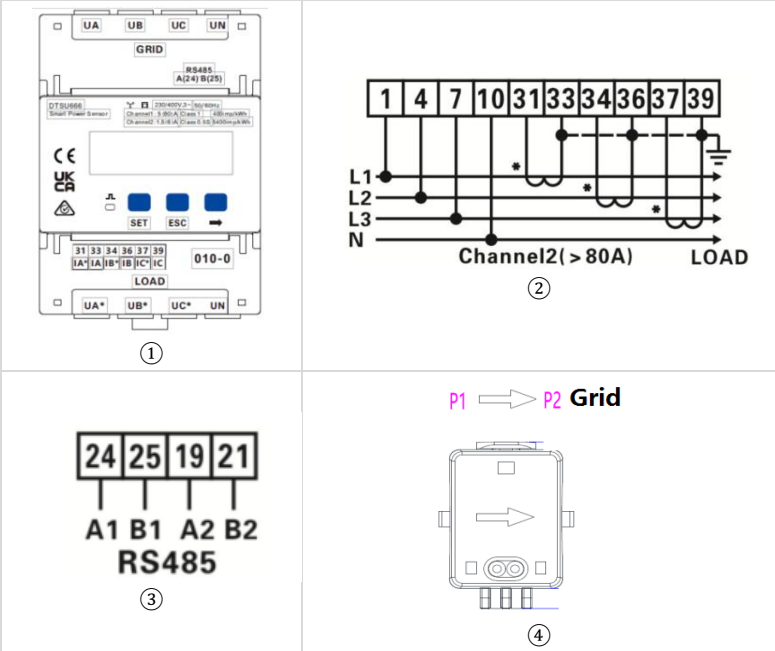

Figure 5-12(a) Meter (Instrument Transformer Meter)
The connection mode is shown in Figure 5-12(a)②. The Pin1/4/7/10 on the electricity meter are connected to voltage signals L and N respectively. And the current signals need to be connected through the current transformer, Pin31/33, Pin34/36, Pin37/39 correspond to the current transformer.
The direct-connected meter is shown in the Figure 5-12(b)①, Pin1 and Pin2 correspond to PIN 24/25 respectively on the Meter, as shown in Figure 5-12(b) ③.